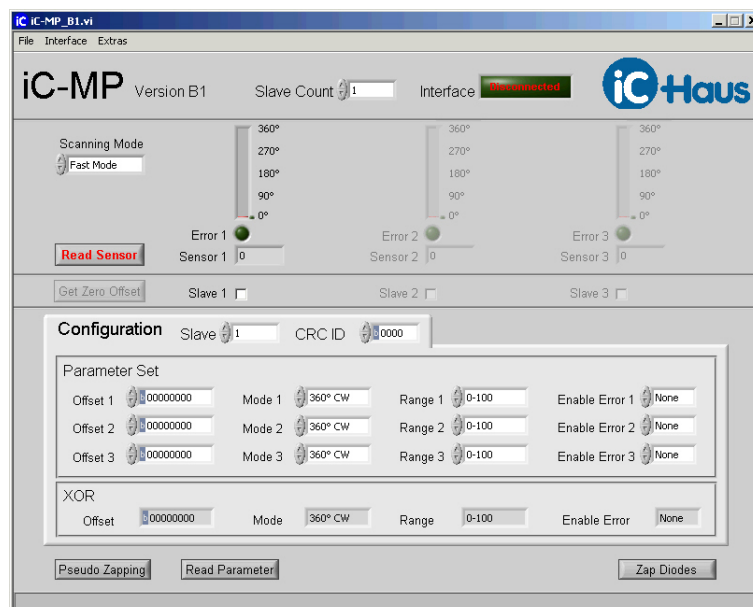

Figure 4: GUI screenshot following startup
3. Installation will make the software <iC-MP_xx.exe> available in the selected working directory. The execution of this file will start the GUI software. Figure 4 shows a screenshot of the startup window.